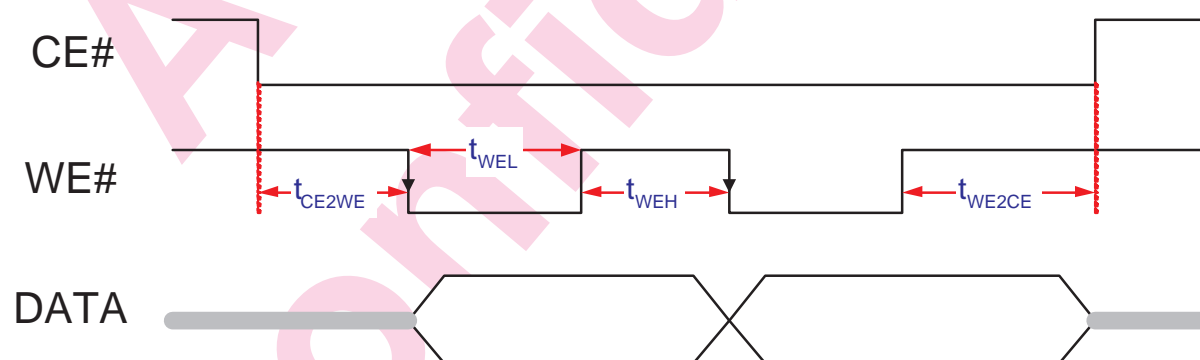

Figure 58: NOR Flash Write Timing
- Figure 58: NOR type flash normal write timing